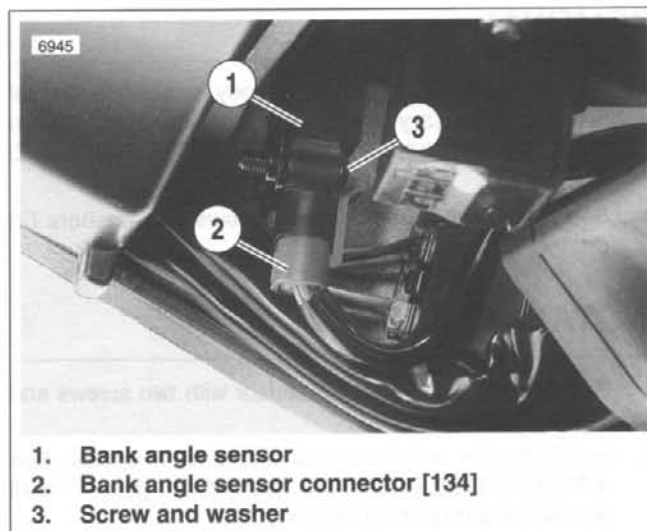

Figure 4-82. Bank Angle Sensor
1. See Figure 4-82. Locate bank angle sensor (1) below left side of tail section. Unplug sensor connector (2) [134].
2. Remove screw and washer (3) to detach sensor from frame.
1. See Figure 4-82. Plug connector (2) [134] into bank angle sensor.
2. Attach bank angle sensor to frame using screw and washer (3). Check that top of sensor is parallel to ground when motorcycle is standing upright (not on side stand).